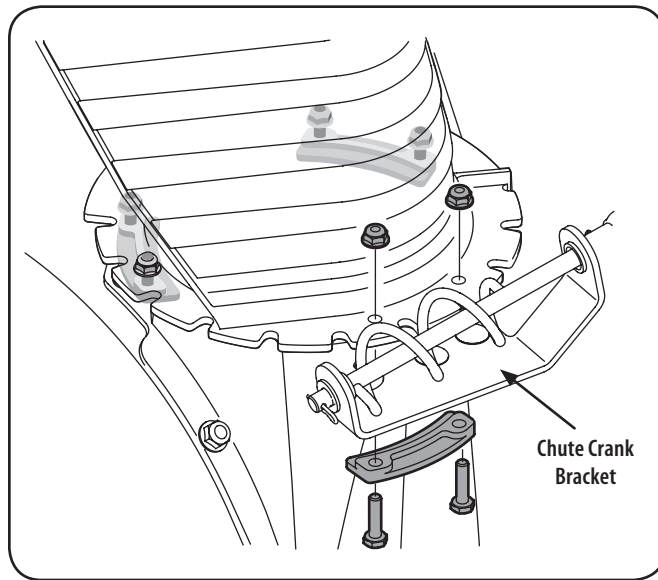

Figure 3-3
1. Loosen, but do not remove, the chute crank bracket in order to attached the chute assembly. See Fig. 3-3.
2. Remove lock nuts and screws securing one of the flange keepers to the chute assembly. Loosen the fasteners of the other two flange keepers. See Figure 3-3.
4. Secure flange keeper removed earlier with lock nuts and screws. Tighten down nuts securing the other two flange keepers. See Figure 3-3.